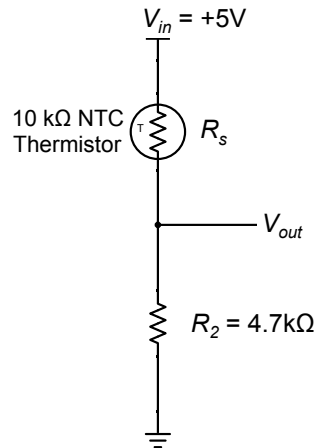

Figure 2 – A thermistor is wired up in a voltage divider circuit.
5. Use the breadboard to construct the thermistor voltage divider shown in Fig. 2. Test the circuit by measuring V_{out} relative to ground. The voltage V_{out} should increase when you warm up the thermistor in your hand.